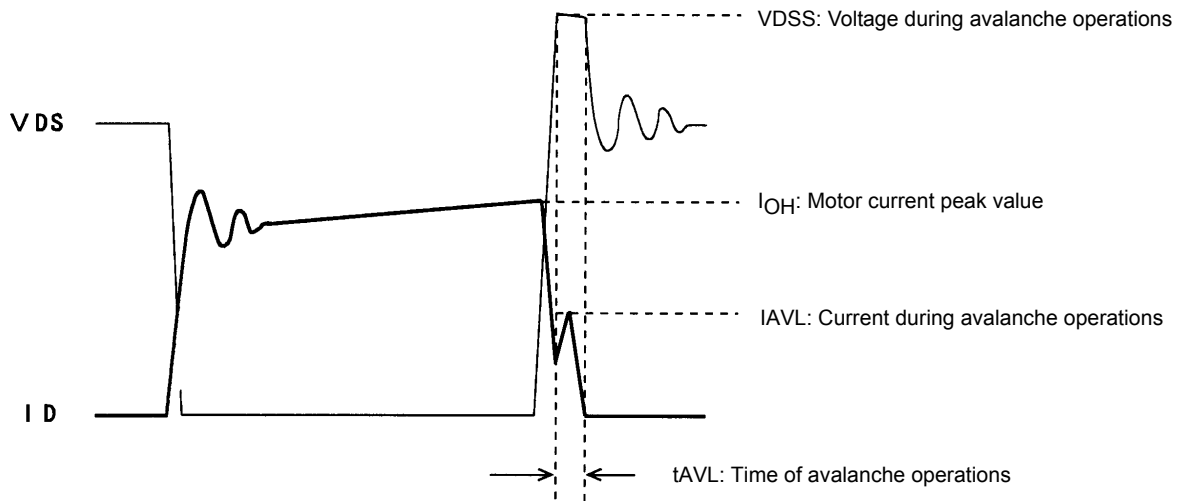

Figure 1 Output Current, I_D , and Voltage, V_{DS} , Waveforms 1 of the STK672-7** Series when Driving a 2-Phase Motor with Constant Current Chopping
When driving a 2-phase Stepper motor with constant current chopping using an STK672-7** Series hybrid IC, the waveforms shown in Figure 1 below result for the output current, I_D , and voltage, V_{DS} .
Although the waveforms during avalanche mode are given in Figure 1, sometimes an avalanche does not result during actual operations.
- Increases in V_{DS} , t_{AVL} , and I_{AVL} in Figure 1 due to an increase in the supply voltage from 24V to 36V.
If the factors above are negligible, the waveforms shown in Figure 1 become waveforms without avalanche as shown in Figure 2.